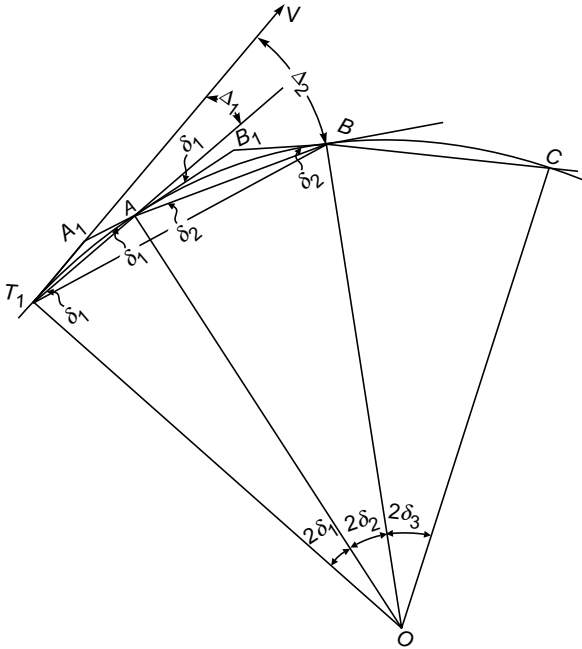

Fig. 2.13
A deflection angle to any point on the curve is the angle between the tangent at point of curve (PC) and the line joining that point to PC (Δ). Thus, referring to Fig. 2.13, δ_1 is the deflection angle of A and $\delta_1 + \delta_2$ is the deflection angle of B .
From Fig. 2.13,